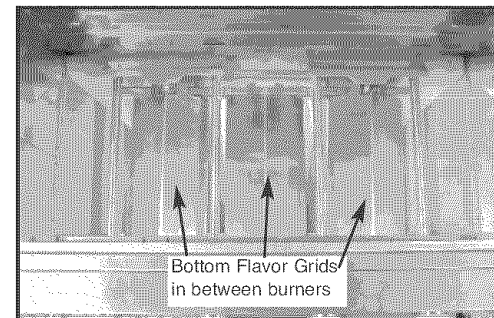

Fig. 15
1. Check to make sure the bottom Flavor Grids are correctly installed in the cutouts and around the igniters, as they may have shifted during shipment. (See Fig. 15)